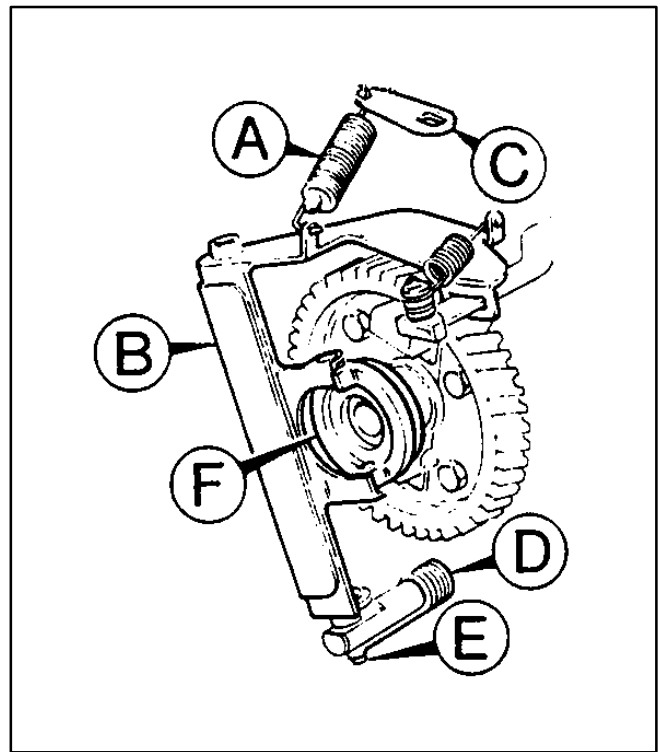

FIGURE 8-44. THE GOVERNOR
2. Disconnect the governor spring (Figure 8-44, Item A) from the governor lever assembly (B) and the speed control lever (C).
3. Move the retainer spring (D) out of the way and remove the lower pivot pin (E) and shim.
6. Remove the governor sleeve (F) and thrust washer.
5. Insert the lower pivot pin and shim into the governor lever assembly and secure them with the retaining spring (Figure 8-44, Item D).